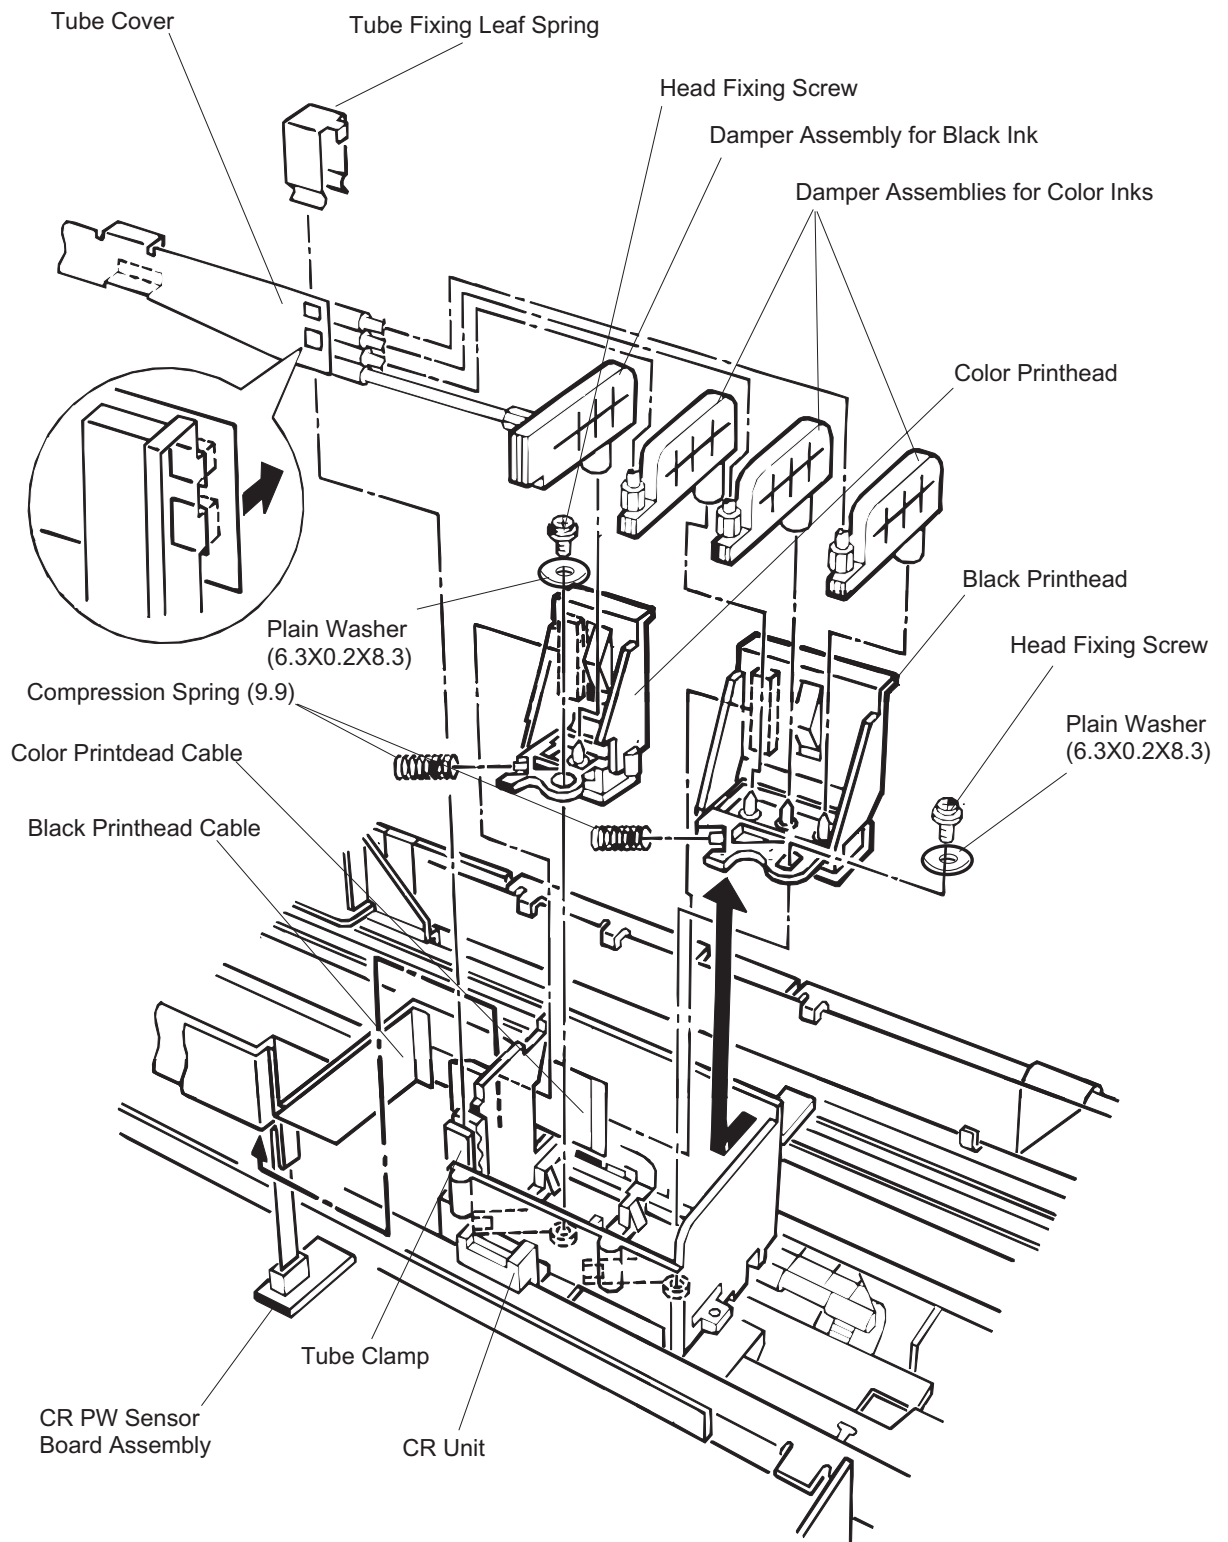

Figure 3-6. Black/Color Head Removal
- When installing the head cables to the CR unit through the tube clamp, be sure to fit the square cutouts on the tube cover to the tube clamp, as shown in Figure 3-6.*